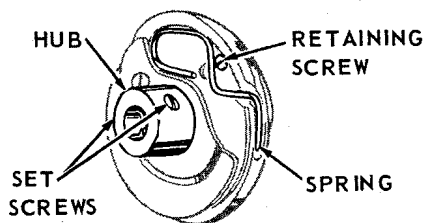

Fig. 37. Rear View of Sewing Hook
2. Loosen two set screws in hub of hook, Fig. 37, and remove hook from hook shaft.
3. Remove retaining screw and spring, Fig. 37, from rear of hook.
3. Replace spring and retaining screw on rear of hook as shown in Fig. 37.